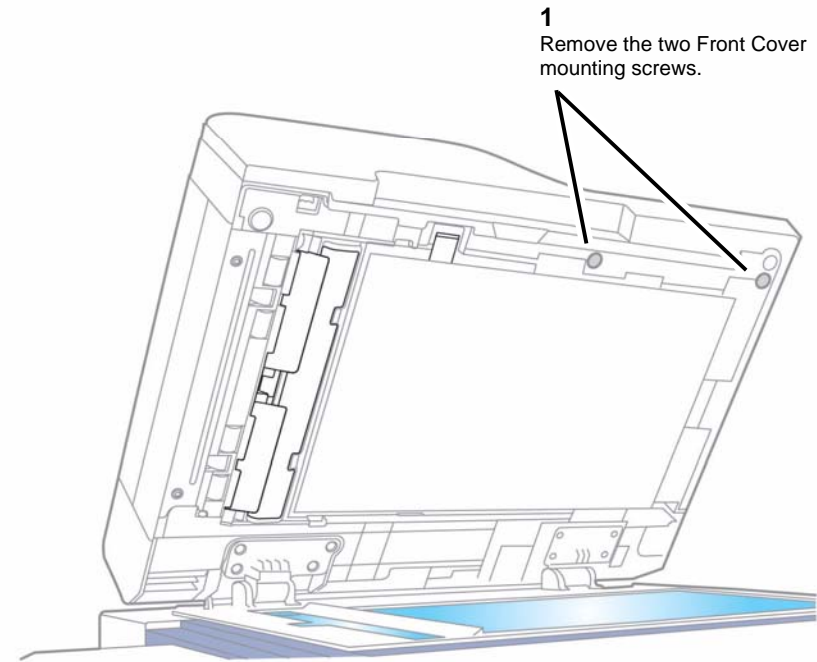

Figure 5 Removing the Front Cover Mounting Screws
- Open the DADF and remove the two Front Cover mounting screws (Figure 5).